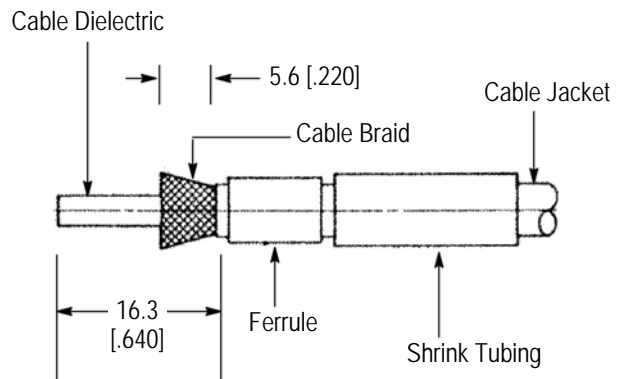

Figure 3
2.1. Preparing the Coaxial Cable End (Figure 3)
3. Trim the braid to the length specified in Figure 3.